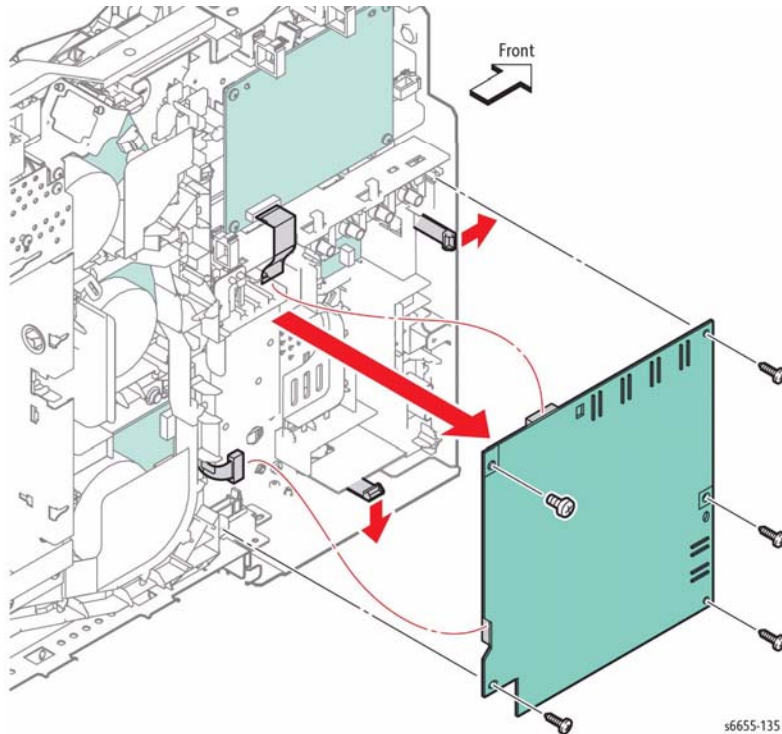

Figure 1 Remove the HVPS Board
4. Refer to Figure 1 to locate and remove the five screws (three silver, tapping, 8 mm) (two silver, 6 mm) that attach the Development HVPS Board and remove the Development HVPS Board after releasing the four hooks.